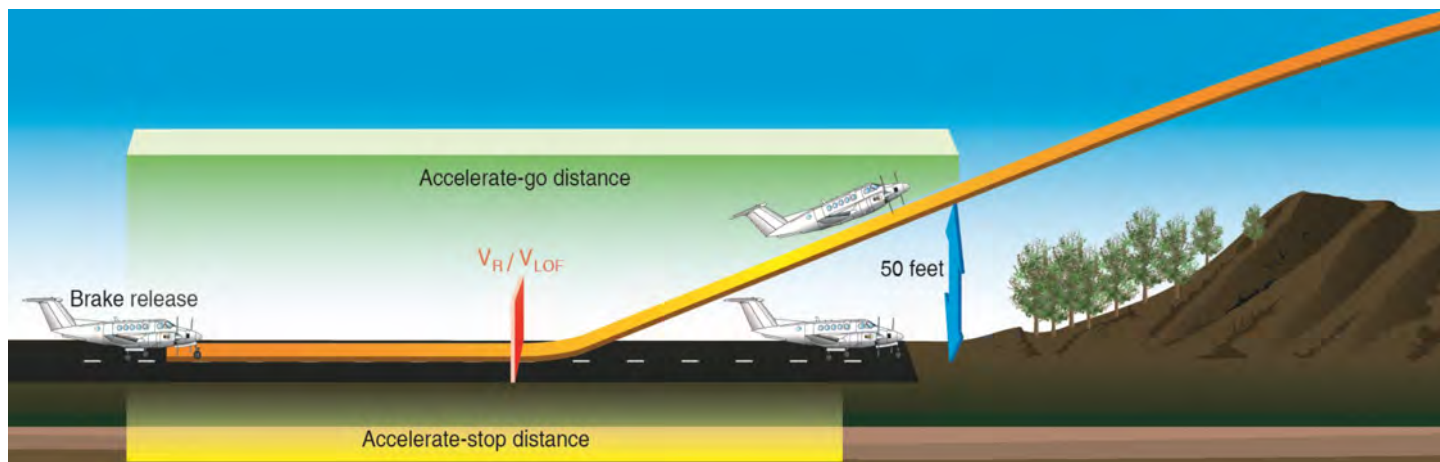

Figure 13-5A. Accelerate-stop distance and accelerate-go distance.
- Accelerate-stop distance is the runway length required to accelerate to a specified speed (either  $V_R$  or  $V_{LOF}$ , as specified by the manufacturer), experience an engine failure, and bring the airplane to a complete stop. [Figure 13-5A]
- Accelerate-go distance is the horizontal distance required to continue the takeoff and climb to 50 feet, assuming an engine failure at  $V_R$  or  $V_{LOF}$ , as specified by the manufacturer. [Figure 13-5A]